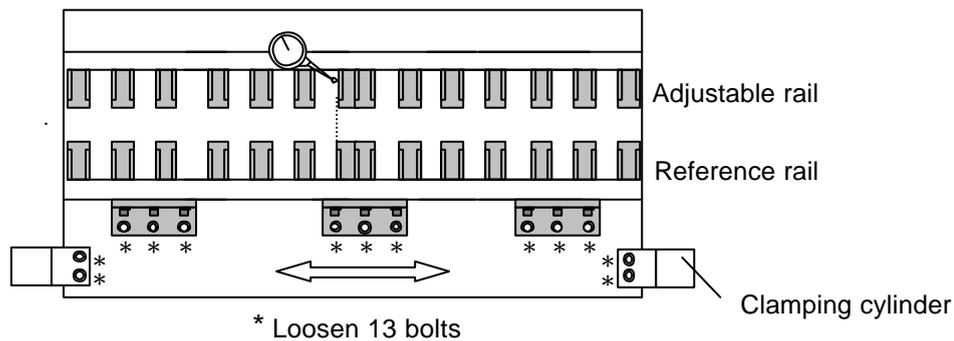

Figure 16
4. Align the reference rail to the adjustable rail (center of play) by loosening the bolts indicated in Fig.16.